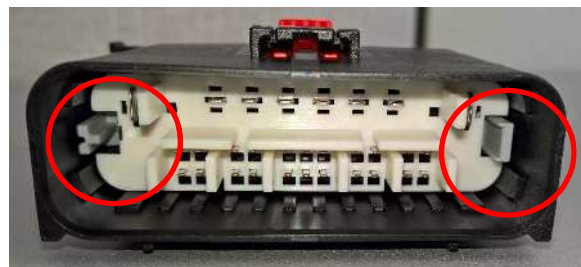

Figure 5
7. After all terminals have been inserted, insert a small screwdriver or other suitable device as shown in Figure 4, to engage ISLs to the closed position by sliding to the right. Tool should be inserted as far down the tower of the ISL as possible. This can be verified by looking at the exposed towers on the ends of the ISL and comparing them to the connector housings, using Figure 5 as a reference.